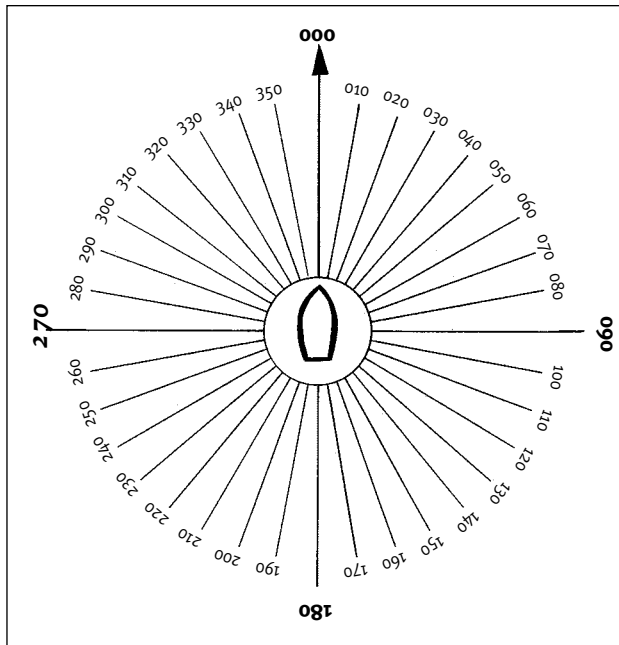

Figure 6.3: Relative bearing circle
- Study figure 6.3 on major reference points of relative bearings. Picture in your mind the complete circle of relative bearings around your boat in 10-degree increments;